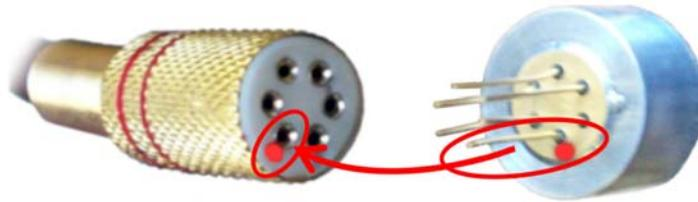

Fig.2. Observance of polarity during the connection between the PD and the PD connector (1).
1. Please take a PD with a integrated TEC. Carefully combine its wires with the pins of connector "PD" (1) tightly till fixation (fig.2).
Note! Marked with the red point pin of connector "PD" must be connected with the appropriate wire of the PD (It's marked with the red point too, fig.2). In the case of wrong junction the PD can be damaged.